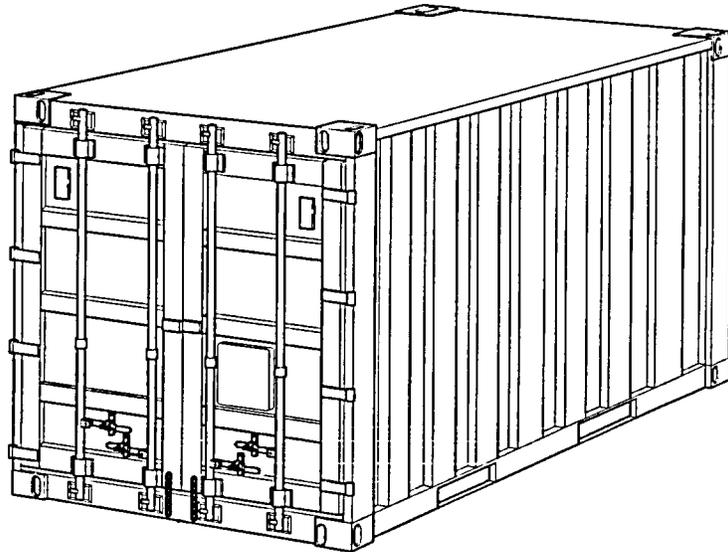

Figure 1-1. Tricon Container.
1.1.3 Purpose of Equipment: The Tricon Container (Figure 1-1) is used to store and ship cargo. Adjustable shelves and provisions for tiedown allow different sized cargo to be loaded.